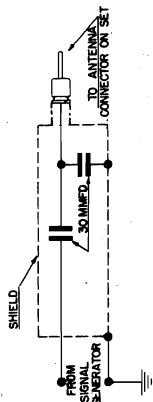

Fig. 9. Dummy Antenna
- 3—Connect signal generator leads through dummy, illustrated in Figure 9, to antenna receptacle on the receiver. This is important.
Fig. 9 shows the schematic of a recommended dummy antenna, closely resembling actual antenna capacity, to be used in series with signal generator leads when aligning the R.F. section of the receiver.
1—Connect signal generator leads through dummy, illustrated in Fig. 9, to antenna lead in socket on receiver. This is important.